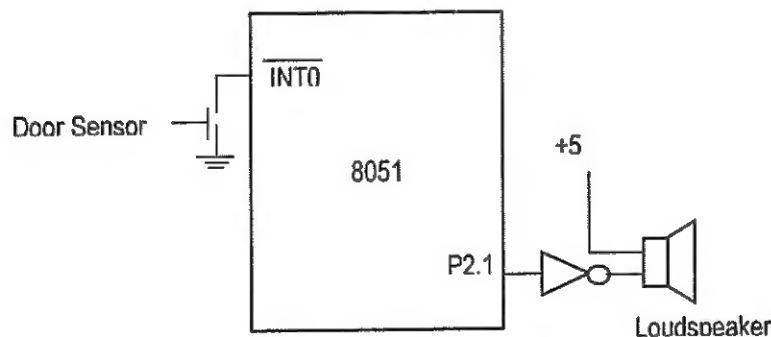

Figure 4.1: Door Security System
- a) Design a door security system as in Figure 4.1 using interrupts that sound a loudspeaker with 400Hz tone for 1 second whenever the door sensor makes a high to low transition. The loudspeaker is connected to P2.1 and the sensor is connected to $\overline{\text{INT0}}$.